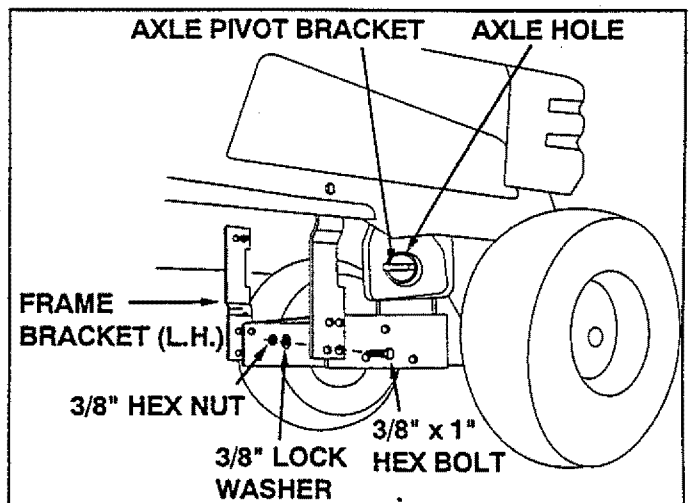

FIGURE 10
- Attach blade frame assembly to the tractor frame by inserting the axle pivot bracket into the hole in the center of the axle. See figure 10.
- Attach the blade frame assembly to frame brackets (R.H. and L.H.) using the bottom front hole on each bracket and the bottom rear holes on both sides of the frame assembly. Use two 3/8" x 1" bolts, 3/8" lockwashers and 3/8" lock nuts. **Do not tighten.** See figure 10.